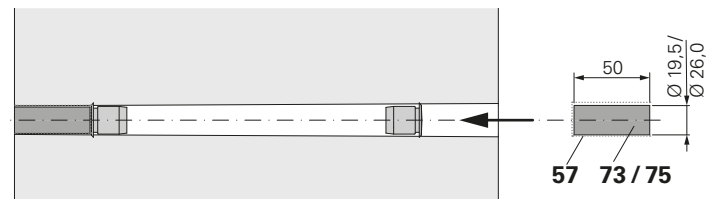
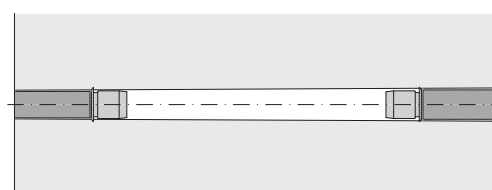

Fig. A5.04
Fig. A5.05
6. Coat Concrete Plug MX15 50mm Type 2 or Concrete Plug MX18 50mm Type 4 (**73 / 75**) on one end face and the outer surface with ready-to-use adhesive (**57**) and push into the tie hole. Make sure that the adhesive-coated end face is pushed onto the flat surface of the plug. (Fig. A5.04 + Fig. A5.05)